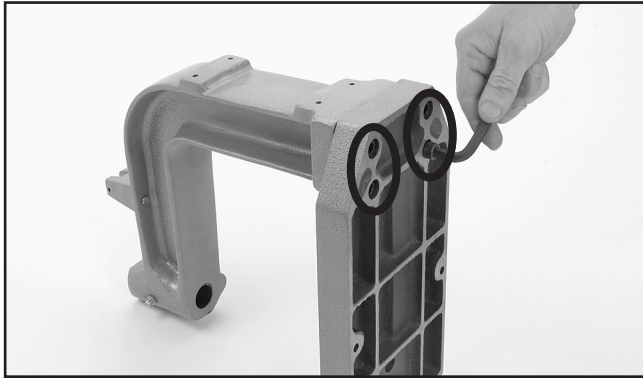

Figure 3. Attaching L-frame to base.
1. Attach the L-frame to the base with four M10-1.5 x 35 cap screws, as shown in **Figure 3**.